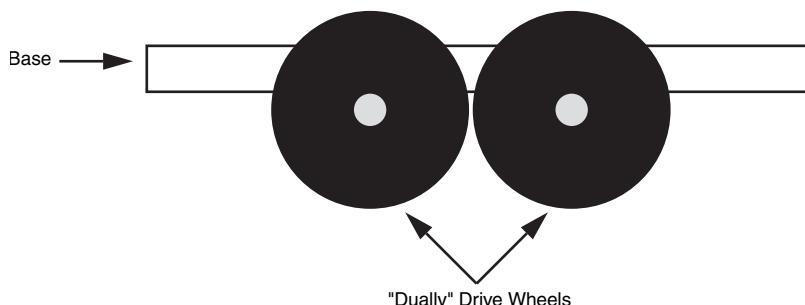

FIGURE 18-10 “Dually” wheels should be placed close to one another. If they are spaced farther apart the robot cannot steer as easily.
- If you are using multiple wheels (dually), position the wheels close together, as shown in Fig. 18-10. The robot will pivot at a virtual point midway between the two wheels on each side.